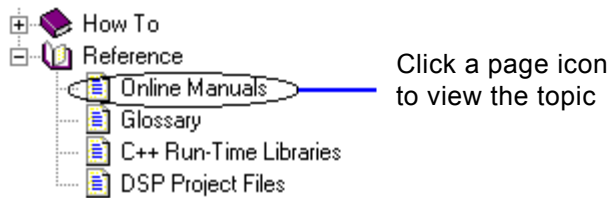

Figure 1-13. Contents Tab – Online Manuals Topic
- A topic name on the Contents tab (Figure 1-13)